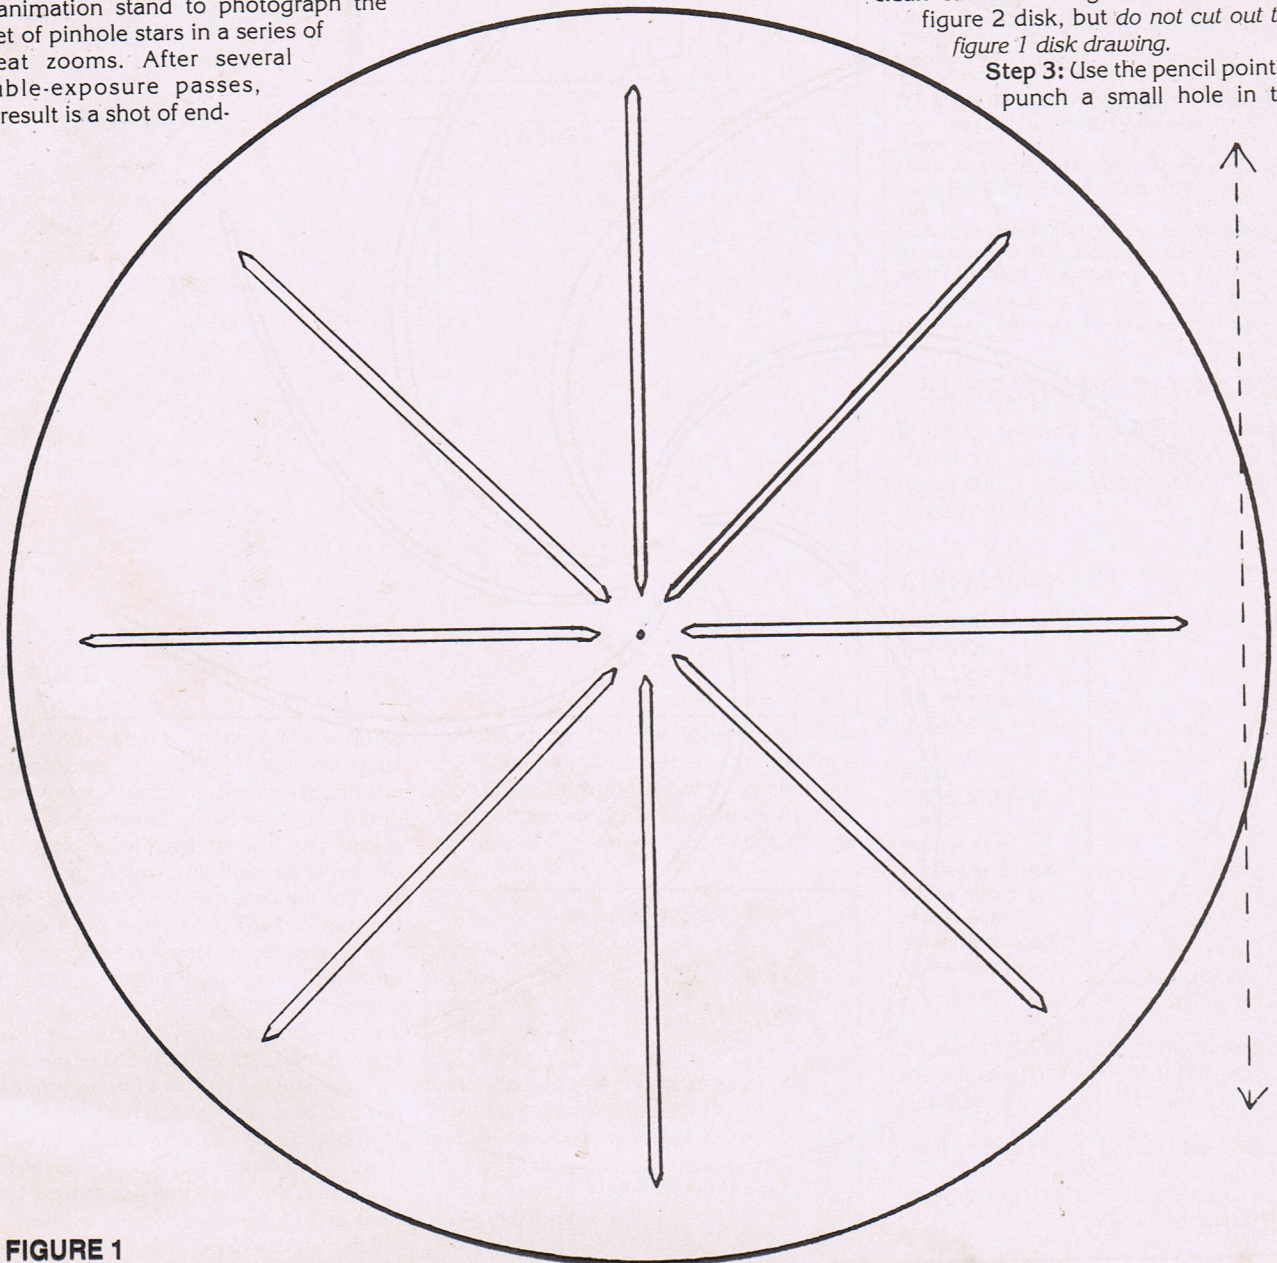
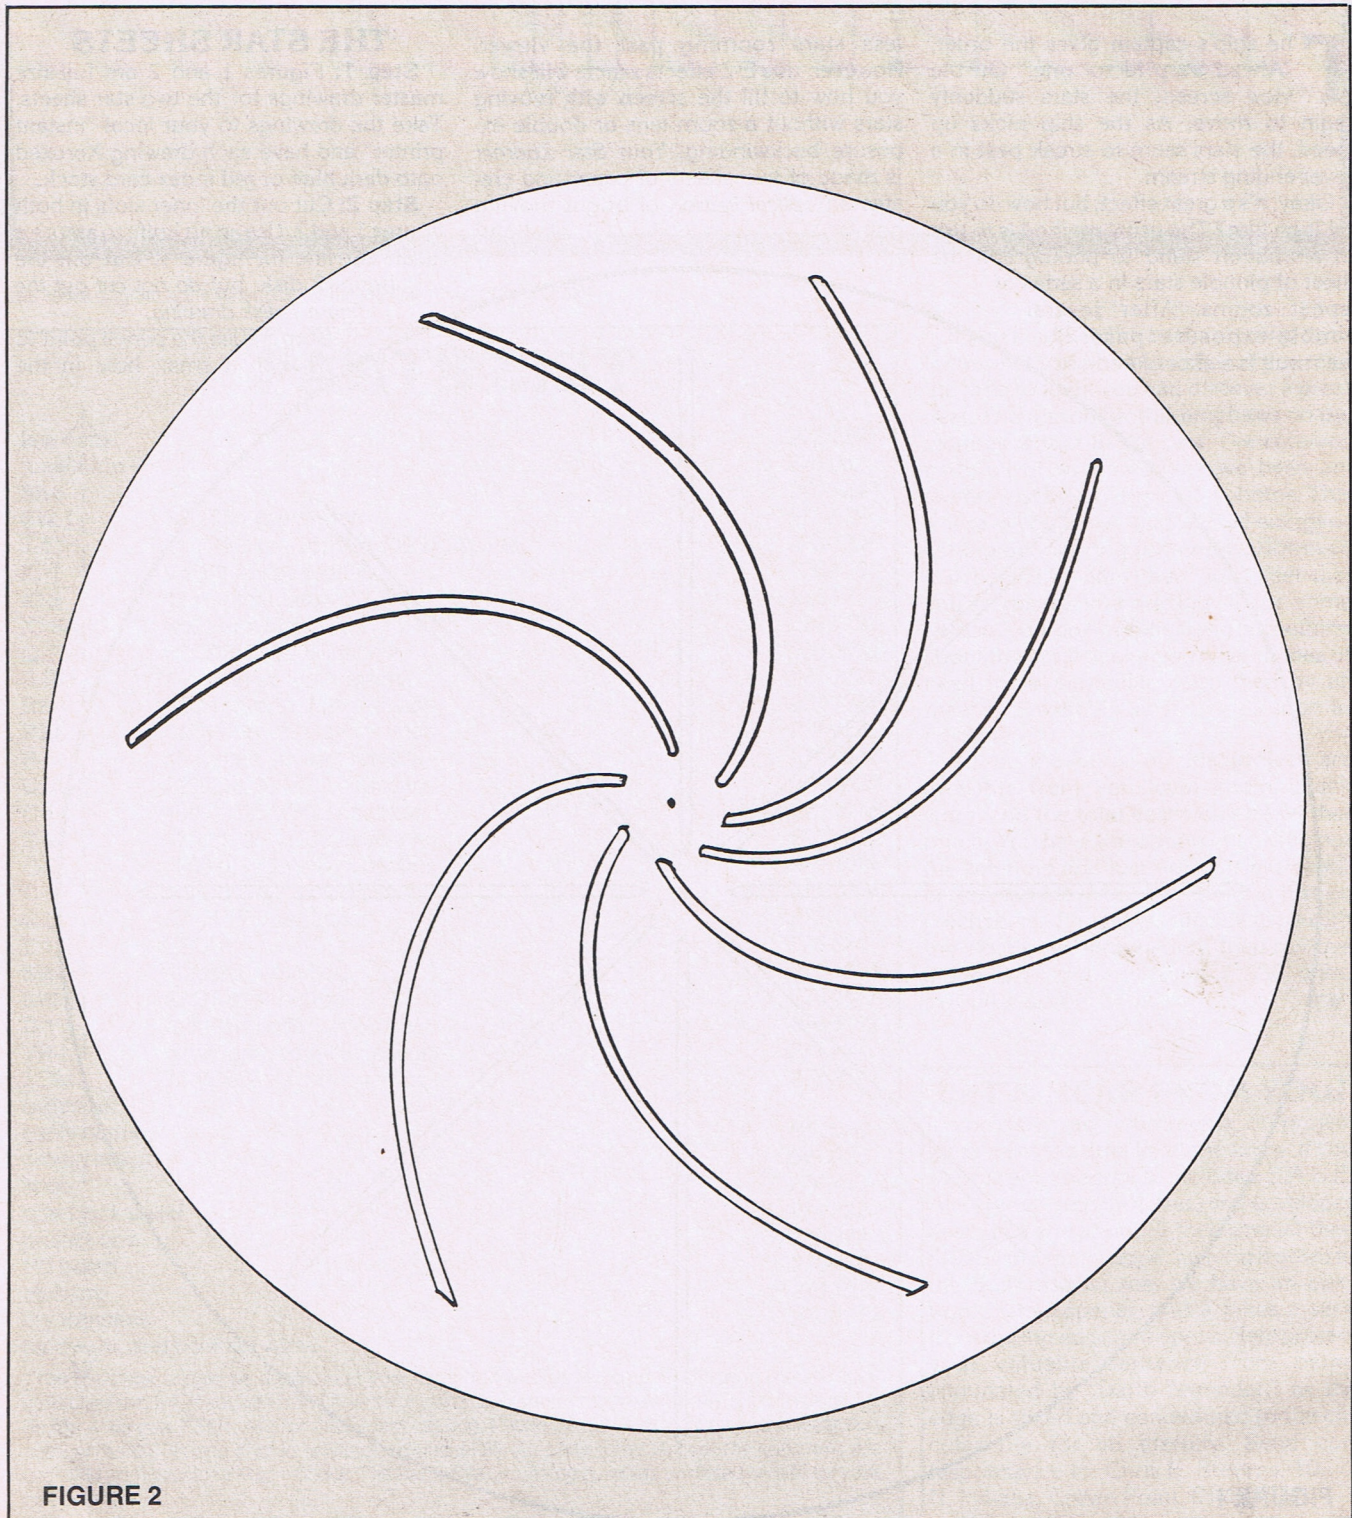

FIGURE 1
FIGURE 2
Step 1: Figures 1 and 2 are full-size master drawings for the two star sheets. Take the drawings to your local "instant printer" and have each drawing Xeroxed onto dark blue or red index card stock.
Step 2: Cut out the inner slots in both figures 1 and 2. Use an art knife to assure a clean cut line for figure 1. Cut out the figure 2 disk, but *do not cut out the figure 1 disk drawing.*
centermark of figures 1 and 2. This hole will later be used for the brass paper fastener.
Step 4: With black felt tip pen or broad nib dry marker, *blacken both sides* of figures 1 and 2. This is the easiest way to assure that the disks will be dark enough to prevent light from filtering through the paper later. Make sure you have a newspaper or old magazine beneath the sheets as you work to avoid the ink "bleeding through" the paper onto your good tabletop.
1 sheet. Place the figure 2 disk against 1 and push the fastener shank through the figure 2 center hole. Spread the fastener shank to firmly anchor the two sheets together. Work the figure 2 disk back and forth to enlarge the centerhole slightly to permit the disk to rotate freely.
serves as the support for the figure 2 disk. The side opposite the disk is the side to be photographed. The entire sheet must be backlit for proper "star" exposure. However, first you must make an additional cut on the figure 1 sheet. Cut a portion out of the Figure 1 sheet at the line indicated by the dashed line in the original figure 1 drawing. Use scissors and make sure you don't cut the figure 2 disk accidentally. This will give you a slight edge of the disk beyond the sheet so you can rotate the disk with your fingertips.
Step 1: The large sheet of Figure 1